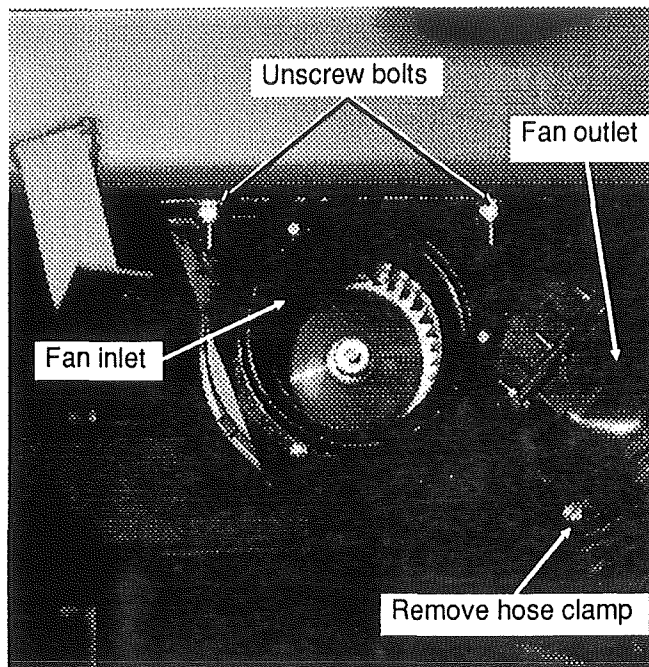

FIG. 23 - Lavatory ventilation fan and motor installation
4. Unscrew the ventilator support retaining bolts, disconnect the ventilator motor connector, and remove motor with fan assembly (see fig. 23).